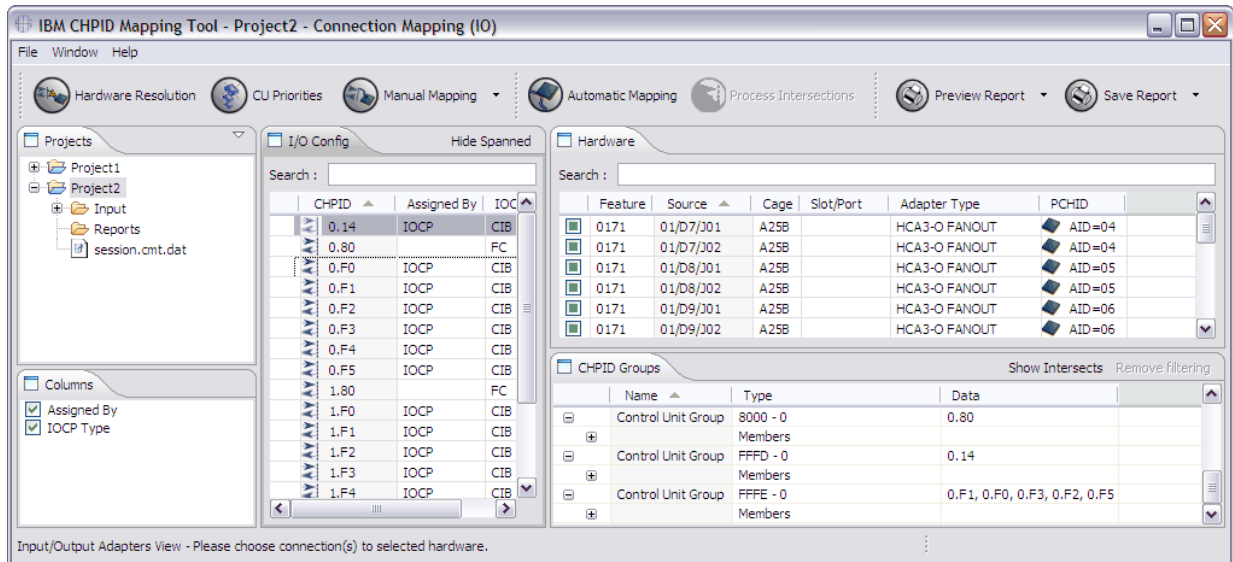
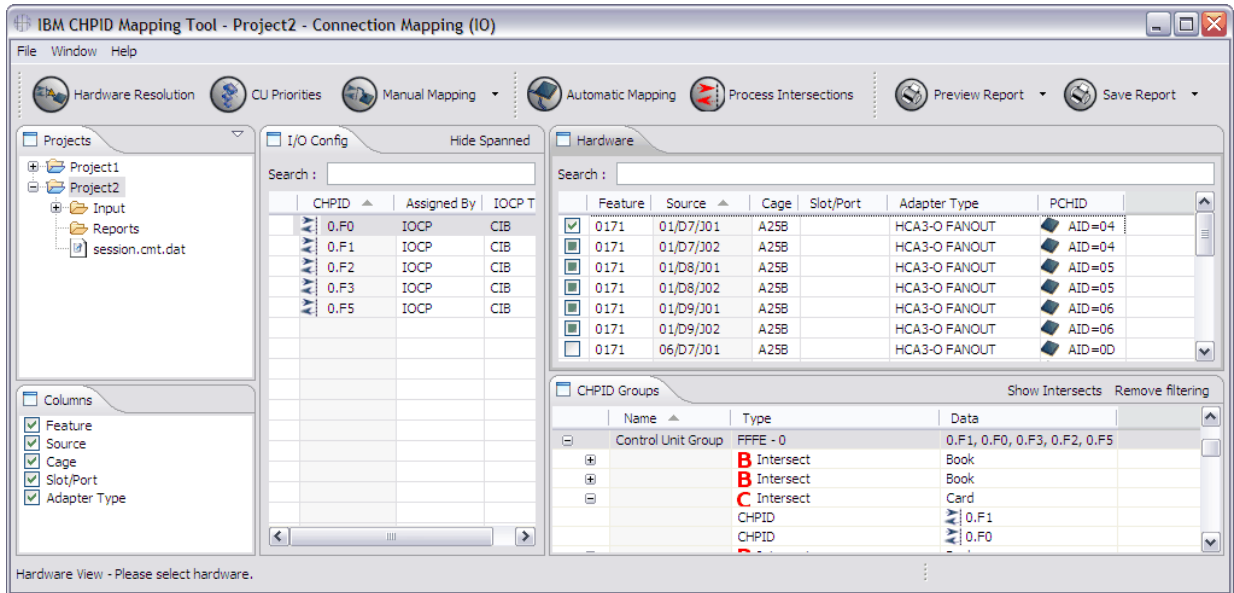

Figure 88. Manual Mapping view in I/O Config > Hardware format
Figure 89. Filtered information in the I/O Config pane
1. If you have not already done so, open the Manual Mapping view in the I/O Config > Hardware format. (Click the arrow beside **Manual Mapping**, and then click **I/O > Hardware**.) Figure 88 on page 72 shows format.
2. In the CHPID Groups pane (at the bottom right by default), double click on Control Unit Group or on the intersection information (in Figure 88 on page 72, this is a big red C). This filters the information that the tool displays in the I/O Config pane. Figure 89 on page 73 shows this.